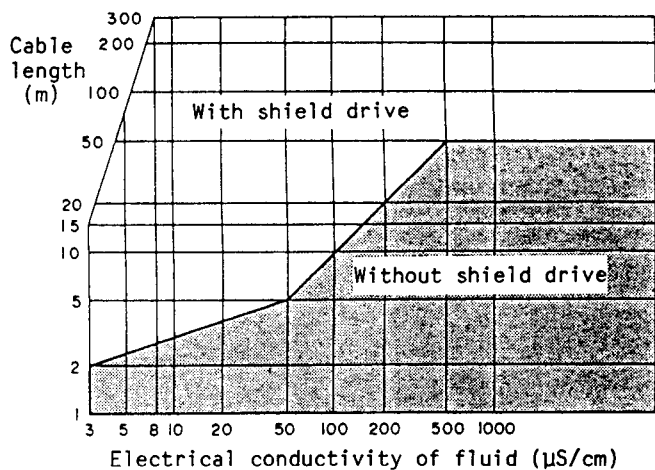

Figure 5-19. Detector Size
For the signal cable, "shield drive"* is necessary or not necessary depending on the detector size, electrical conductivity of measured fluid, and cable length as shown in Figures 5.19 and 5.20.
Whether a signal cable with or without shield drive should be used depends on the detector size, electrical conductivity of measured fluid and cable length as shown in Figures 5.19 and 5.20, where the clear sections are the areas which call for cables with shield drive and the shaded sections are the areas which do not call for shield drive. (See Table 5.4.)
Note 1: Specify when in the shaded section in Figure 5-19 or 5-20. (Without shield drive)
Note 2: Specify when in the clear section in Figure 5-19 or 5-20. (With shield drive)
- (5) When using cables other than Model KIW dedicated to MagneW, use equivalent ones shown in Tale 5.4 in the condition that they meet the requirements of the shaded sections shown in Figure 5-19 and 5-20.
(For "shield drive," refer to Figures 5.19 and 5.20.)